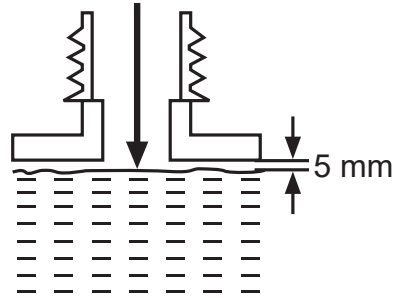

Fig. 4
12. Fill correctly mixed fuel / oil into the tank using a fuel funnel fitted with a filter to avoid debris entering the tank. Do not overfill. Leave a minimum 5 mm of space between the top of the fuel and the inside edge of the tank to allow for expansion (Fig. 4).